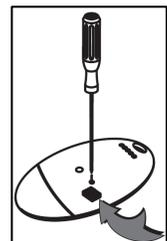

FIG. 13
4. The display will show “Hidden button”. Press the hidden button of the transmitter you want to store as shown in Fig. 13.